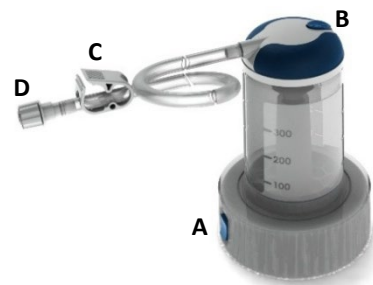

Figure 1: Aspiration Canister
The CLEANER Vac™ Aspiration Canister is a fully disposable and sterile 400cc Aspiration Canister with an integrated pump and connected aspiration tubing. The Aspiration Canister contains a power switch with adjacent vacuum indicator (A), removeable lid, and Vacuum Release Button (B). The aspiration tubing contains a Tubing Clamp (C) and connector (D) to the Handpiece. The Aspiration Canister is shown in Figure 1.